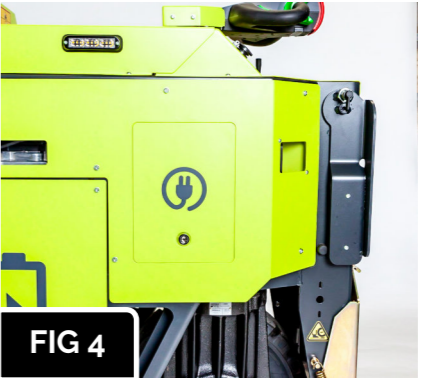

FIG 4
- ▶ When operating the truck in walking mode the rails must be in the lowered position (fig 4)